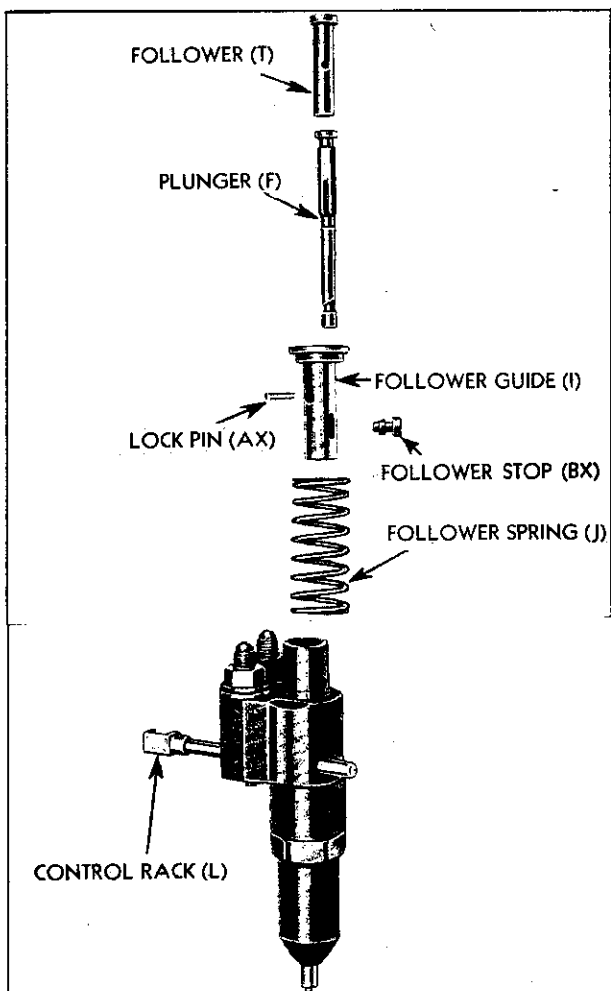

Fig. 16—Plunger and Follower Details.
- (b) Position valve spring (U) over shank of valve stop (V), and place shank of spray tip valve (O) into the other end of the valve spring (U). While holding the spray tip (P) in a horizontal position, assemble valve stop, valve spring and valve into the tip, with the head of valve (O) toward the flanged end of spray tip.
- (c) Hold injector body in the vise—bottom end up—then centrally place the check valve assembly, parts (S), (N), and (Q), on the end of the plunger bushing (E) and the tip assembly, parts (P), (V), (U), and (O) on the top of the valve assembly.
- (d) Lubricate threads and carefully place the nut (X), containing the spill deflector (R), down over the top of the tip and check valve assemblies so the tip will slide through the small hole in small end of the nut.
- (e) Screw the nut in place by hand (do not use wrench at this time), making sure that the check valve assembly, parts (N), (Q) and (S), has not shifted. If the check valve assembly is not centrally located on end of bushing, the valve seat (Q) and spacer (S) will not register into counterbore of the injector nut. This registration can be made by turning end of spray tip with the fingers while screwing the nut into place by hand.
- (a) Refer to Fig. 16, and slide the plunger (F)—large end up—into the follower guide (I); place follower (T)—large end up—on plunger; slide follower pin (AX) through hole in follower guide and follower. Drop this assembly through plunger spring (J) for assembly to injector.
- (b) Invert the position of the injector in the holding fixture—connector side up—push the rack (L) way IN, then assemble the plunger assembly parts (F), (I), (T), (AX), and (J) into top of injector body, as follows:
- (c) Start stop pin (BX) into position in injector body so that bottom coil of follower spring (J) rests on the narrow flange on the stop pin. Then, with holes in the follower guide and the injector body in alignment for the stop pin, and flat side of plunger positioned to engage flattened side of gear, press down on top of follower and at the same time press